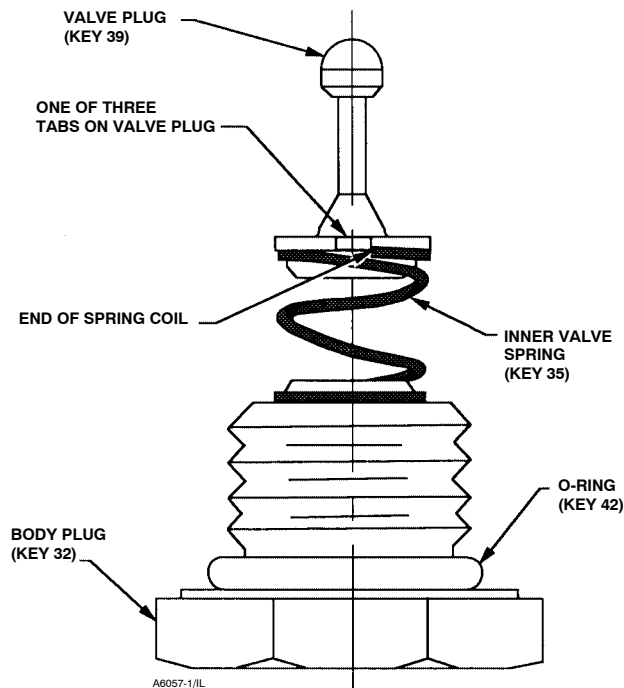

Figure 12. Valve Plug, Inner Valve Spring and Body Plug Assembly
Refer to figures 12 and 14 for key number locations.
1. Assemble the inner valve spring (key 35) onto the body plug (key 32) and fit the valve plug (key 39) onto the inner valve spring as shown in figure 12. To assure best alignment between the valve plug, inner valve spring, and body plug; fit the valve plug onto the inner valve spring so that one of the three tabs at the base of the valve plug sets at the end of the last coil of the inner valve spring.
2. Lubricate the O-ring (key 42) with a silicone sealant (key 37). Insert the assembled valve plug, inner valve spring, and body plug into the relay body (key 41). Compress the spring and thread the body plug (key 5) into place. Then, tighten the body plug.
3. Insert two of the mounting screws (key 36) into two opposite holes of the relay body (key 41). Hold the screws in place while assembling the following parts on the relay body. The screws serve as studs to align the parts as they are being assembled.
4. When replacing the exhaust port assembly (key 33), make sure all passages and screw holes are aligned and that the hole in the center of the exhaust port assembly fits over the valve plug (key 39). Place the exhaust port assembly on the relay body (key 41). Hold assembled parts in place.
5. Make sure the tabs on the body block (key 40) align with the tabs on the relay body (key 41) and that the side with 5 holes faces the relay body. Place the body block on the assembled parts. Hold assembled parts in place.
6. When replacing the input diaphragm (key 38), make sure all passages and screw holes are